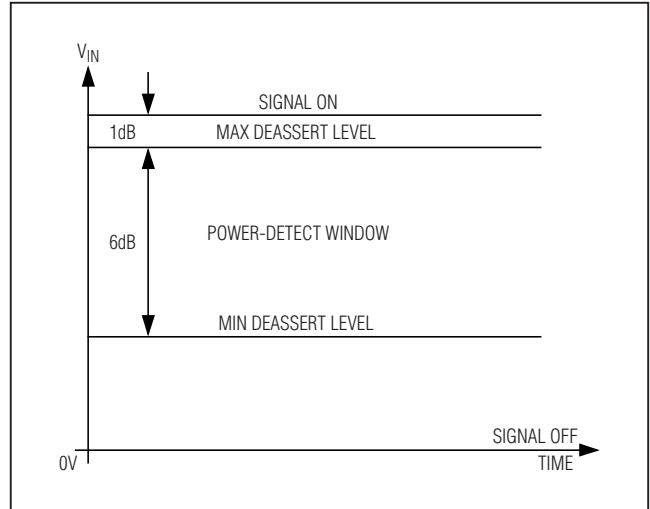

Figure 2. LOS Deassert Threshold Set 1dB Below the Minimum by Receiver Sensitivity (for Selected RTH)
**Note 8:** The signal at the input is switched between two amplitudes, Signal\_ON and Signal\_OFF, as shown in Figure 2.